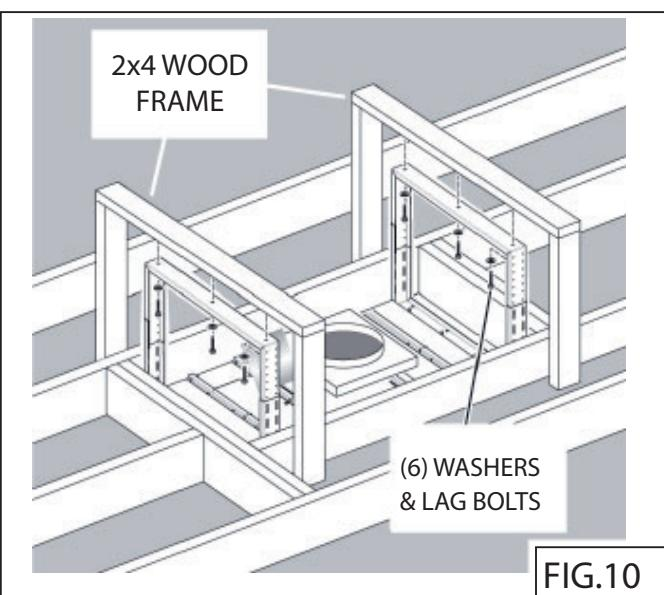

FIG.10
3. Secure each support frame to the wooden hood support frame using (6) 6 x 60 mm lag bolts and washers provided. Fig. 10.